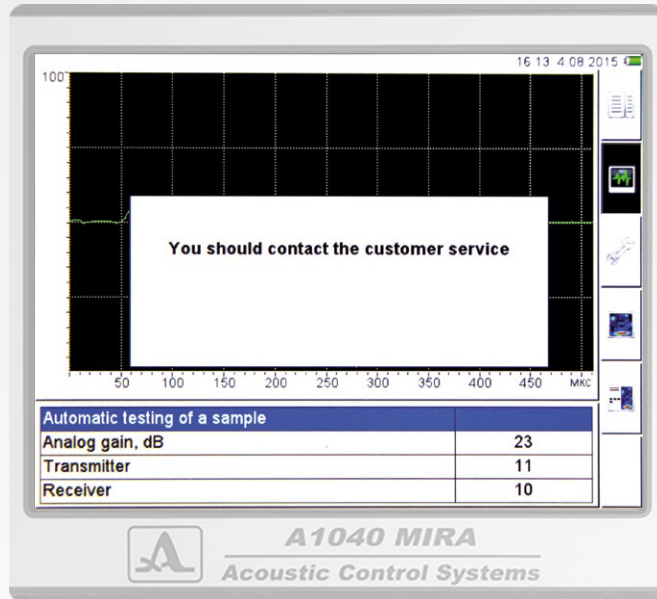

Figure 19
- If the tomograph is not ready, the following information will be displayed on the screen (Figure19).